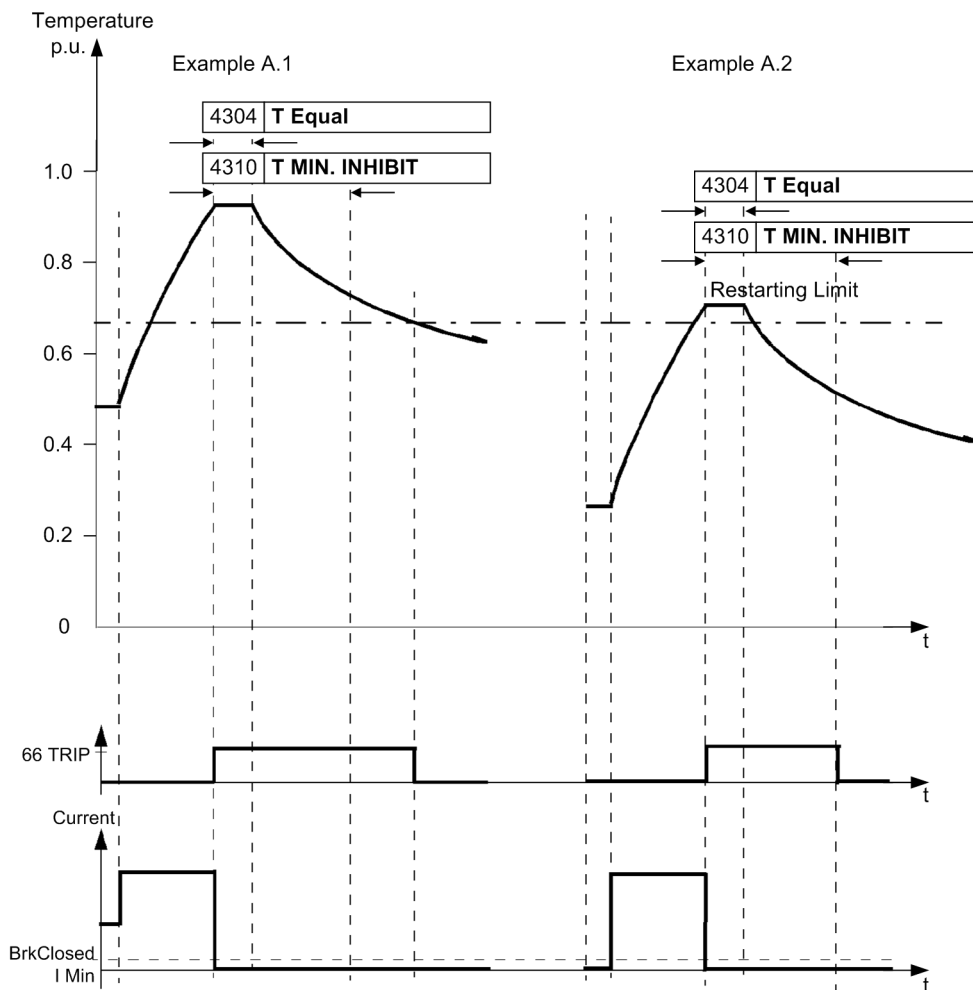

Figure 2-57 Starting up according to examples B.1 and B.2
1. A startup brings the machine from load operation into a temperature range far above the thermal restarting limit and the machine is stopped. The minimum inhibit time and the equilibrium time are started and „66 TRIP“ is reported. The temperature cool-down below the restarting limit takes longer than 4310 and **T MIN. INHIBIT** and 4304 **T Equal**, so that the time passing until the temperature falls below the temperature limit is the decisive factor for clearing the message „66 TRIP“. The thermal replica remains "frozen" while the equilibrium time expires (see Figure 2-57, to the left).
2. A startup brings the machine from load operation into a temperature range just above the thermal restarting limit and the machine is stopped. The minimum inhibit time and the equilibrium time are started and „66 TRIP“ is reported. Although the temperature soon falls below the restarting limit, the blocking „66 TRIP“ is preserved until the equilibrium time and the minimum inhibit time have expired (see Figure 2-57, to the right).